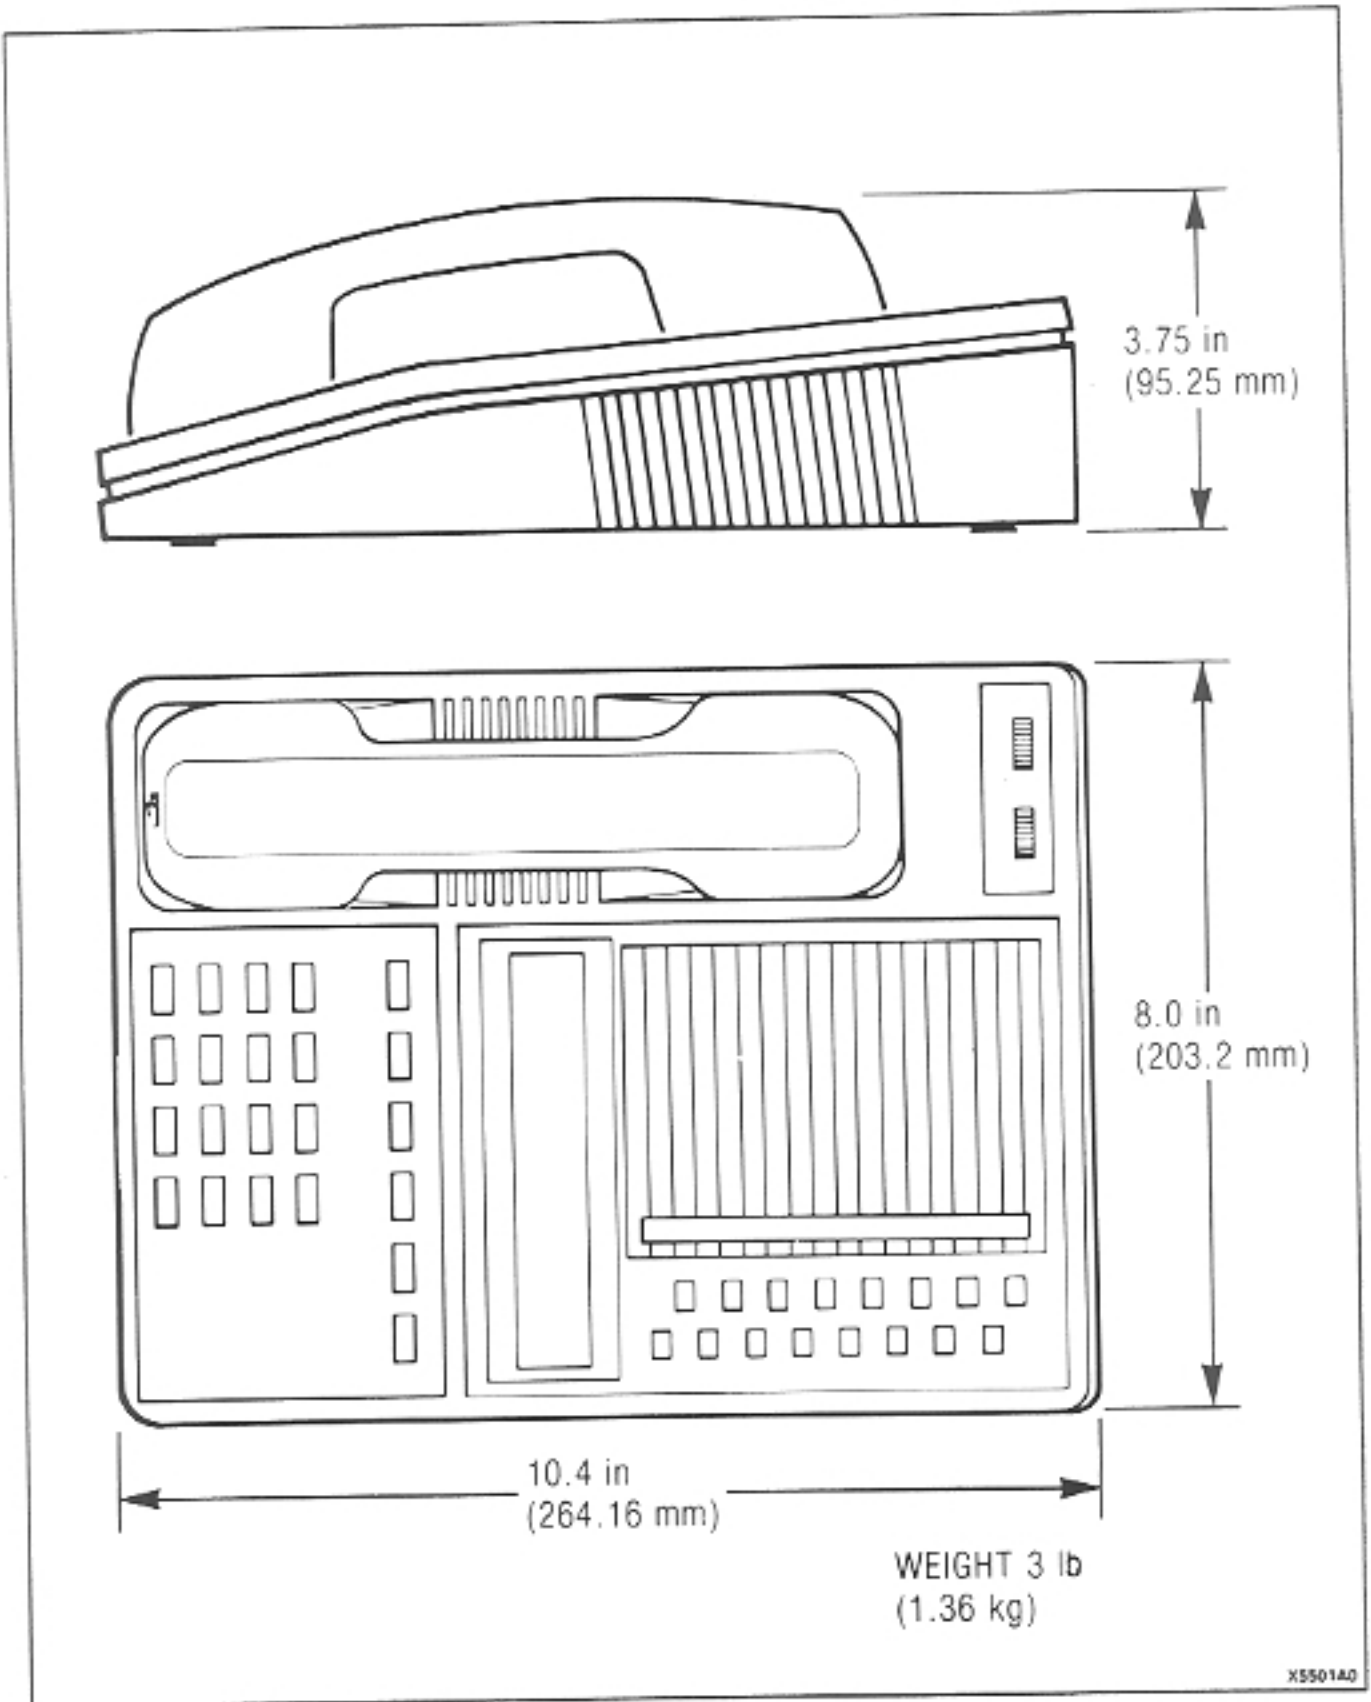

Figure 3-1 SUPERSET 4 Dimensions
**3.01** The SUPERSET 4 body and handset are of plastic construction. The dimensions of the SUPERSET 4, with handset on-hook, are given in Figure 3-1.